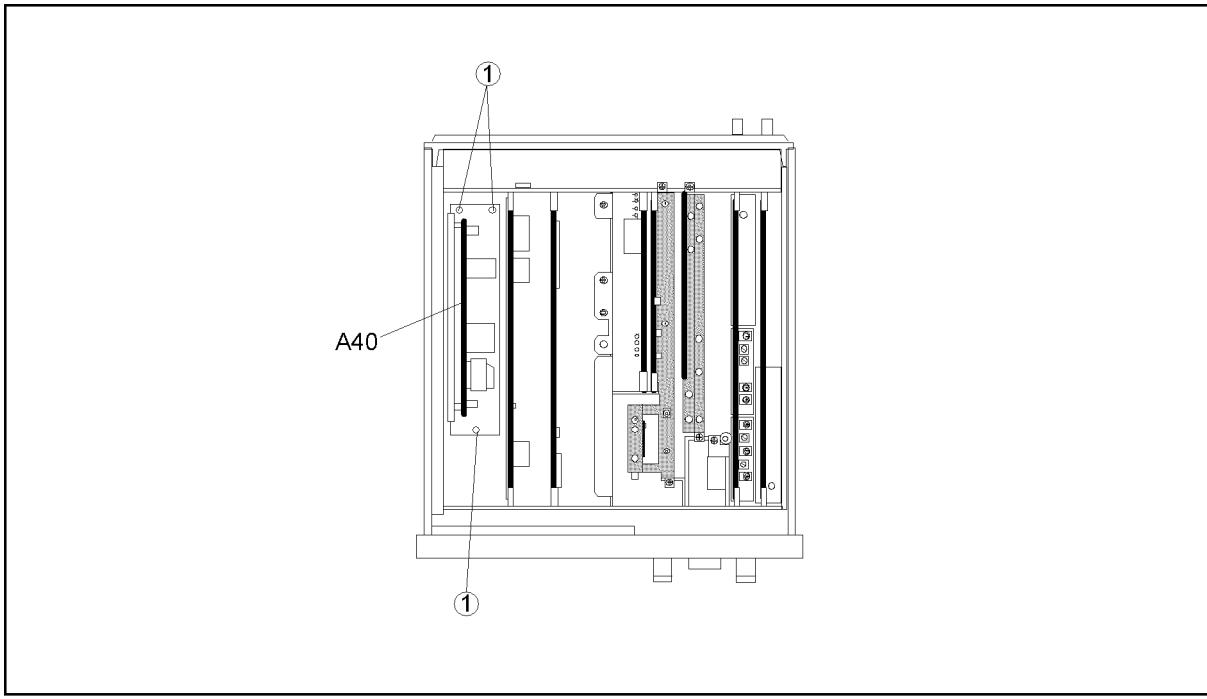

Figure 13-8. A40 Preregulator Replacement
3. Remove three screws designated ① in Figure 13-8